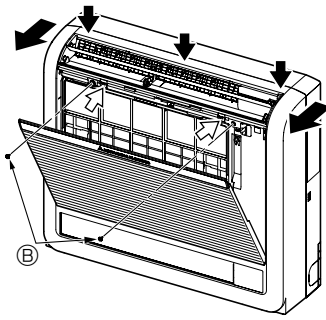
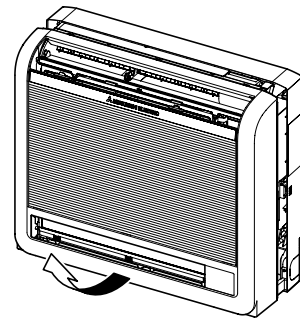

Fig. 3-3
Fig. 3-4
- ① Press the 2 positions indicated by the arrows and open the front grille. (Fig. 3-3)
- ② Open the front grille and remove the 2 screws.
- ③ Open the horizontal vane for the upper air outlet, push the top of the front panel in 3 locations, and then pull the top of the grille away from the indoor unit.
- ③ Screws
- ④ Lift up the front grille to remove it. (Fig. 3-4)